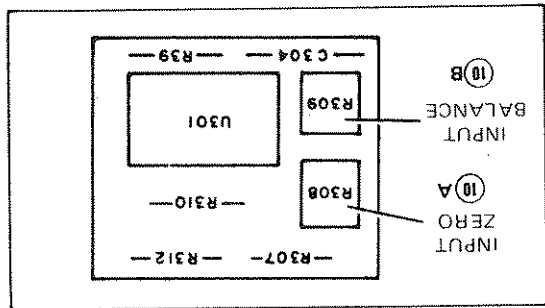

Figure CS-3. P/O Figure 5-2.
e. Adjust R308 (10) A for the same display reading as noted in Step c (opposite polarity).
i. Adjust R309 (10) B for the same reading as noted in Step g ± 5 counts (opposite polarity).
j. Repeat Step a through i until both adjustments (10) A and (10) B are correct.
k. Repeat Adjustments (9) and (10) before proceeding to adjustment (11).
Page 5-5, Figure 5-2. Add adjustments (10) A and (10) B as shown in Figure CS-3.